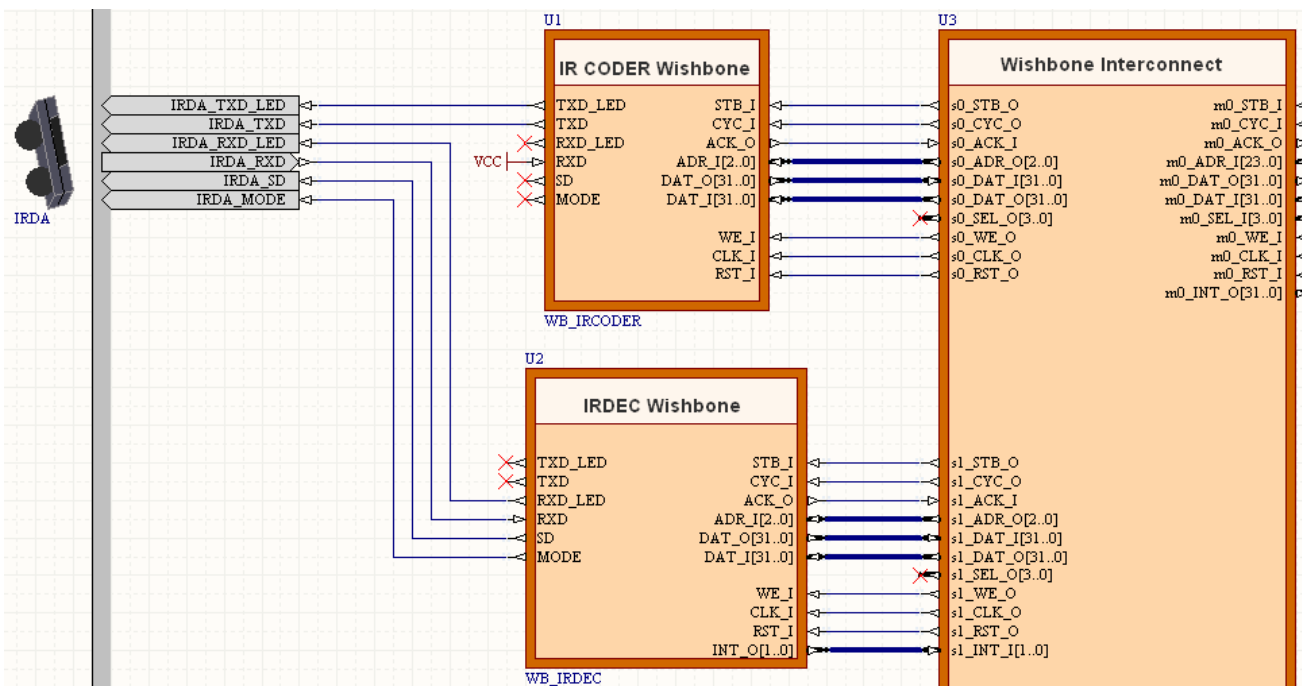

Figure 12. Transmitting and receiving IR remote control codes in the same FPGA design.
Should you wish to transmit and receive IR remote control codes in the same FPGA design – using the WB\_IRCODER and WB\_IRDEC peripheral devices respectively – this can be achieved, using a wiring layout as shown in Figure 12.
Looking at the IRDA port component in Figure 12, we can see:
- The SD and MODE lines can be wired from either of the peripherals (but not both). In Figure 12, they have been wired from the WB\_IRDEC simply for neater wiring. If the ability to set the operational mode of the IR Transceiver is required, the MODE line would be left unconnected.